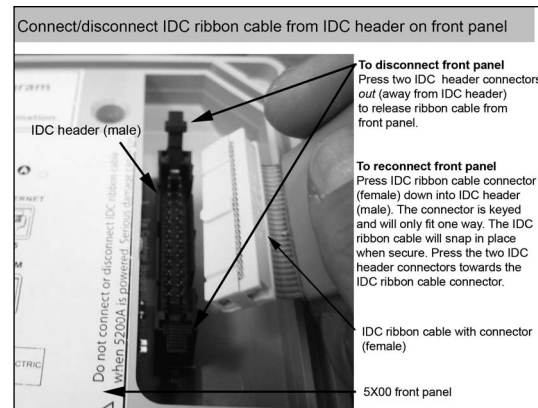

Figure 3.5
2. Disconnect front panel ribbon cable by pressing the two IDC header connectors located on the front panel out (away from the IDC header) - figure 3.5.
12. Connect 5X00 display board to ribbon cable - figure 3.5.